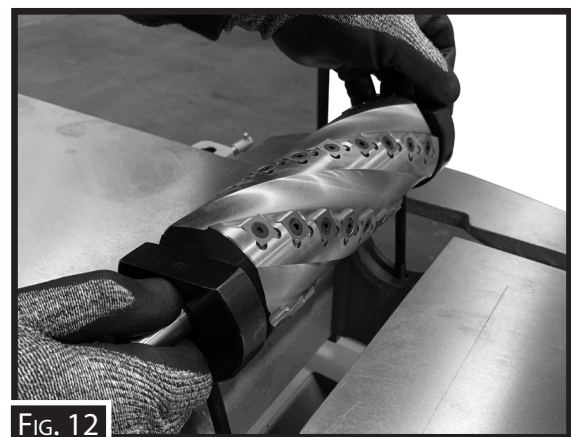

FIG. 12
3. Refit spindle assembly to machine (ensure shims are put back in the same side if fitted). (Fig.12)